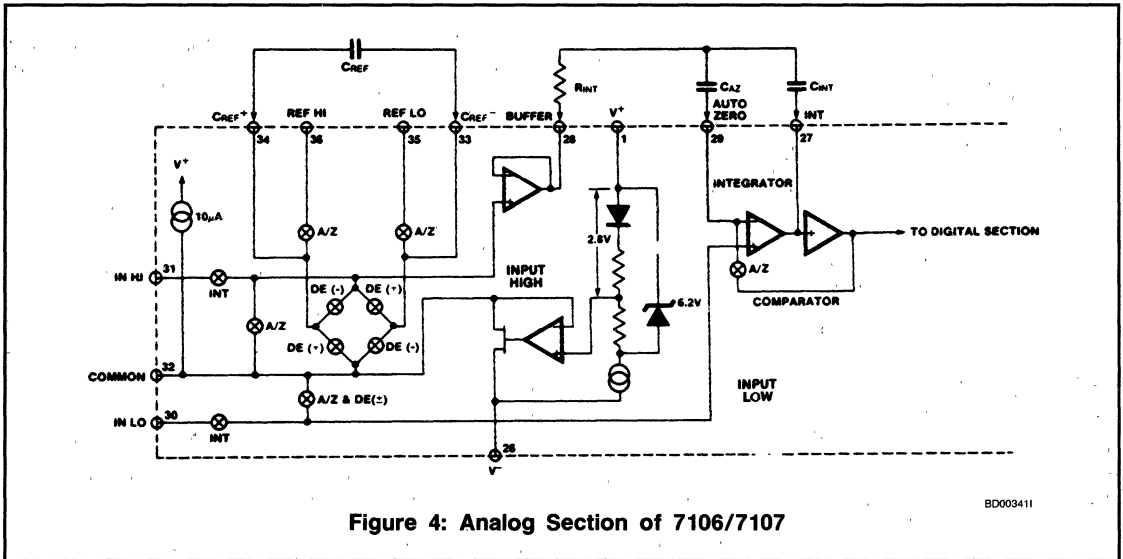
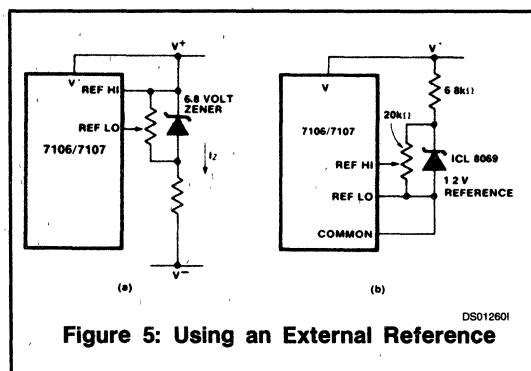

Figure 4: Analog Section of 7106/7107
Figure 5: Using an External Reference
NOTES: 3. Unless otherwise noted, specifications apply to both the 7106 and 7107 at T_A = 25°C, f_{clock} = 48kHz. 7106 is tested in the circuit of Figure 4 7107 is tested in the circuit of Figure 5.
Figure 4 shows the Analog Section for the ICL7106 and 7107. Each measurement cycle is divided into three phases. They are (1) auto-zero (A/Z), (2) signal integrate (INT) and (3) de-integrate (DE).
The 7106, with its negligible dissipation, suffers from none of these problems. In either case, an external reference can easily be added, as shown in Figure 5.